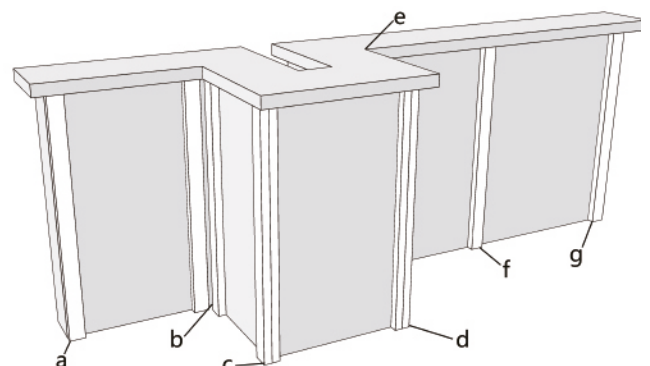

Fig1-1
1. Install the joist. As shown in Figure 1-1: